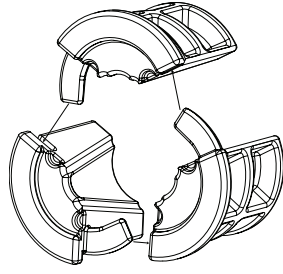

Fig. 12-1
Step 12-2: Fit 3 conduit caps together as shown in Fig. 12-1. (The conduit caps may be held together with a small rubber band.)